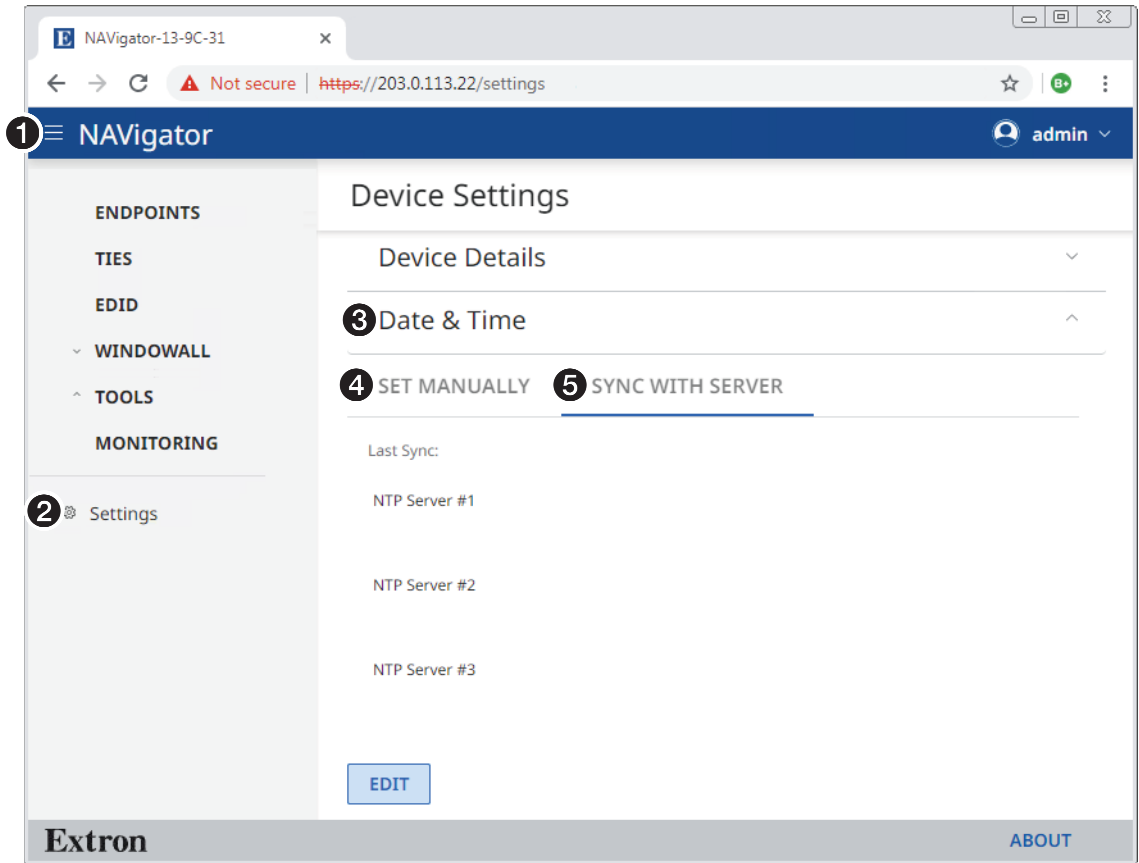

Figure 103. Date & Time Pane
1. If necessary, click the **Menu** icon (see figure 103, ❶).